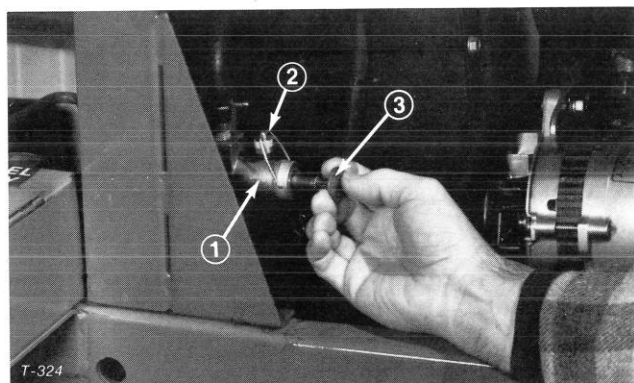

Figure 27
3. Unscrew plunger clampscrew and swing clamp wire off plunger of hand primer pump (Fig. 27).
6. Work primer plunger until solid stream of fuel flows out around second screw. Tighten screw, push primer plunger in and hold in full in position. Lower clamp wire and tighten plunger clamp screw to secure plunger (Fig. 27).